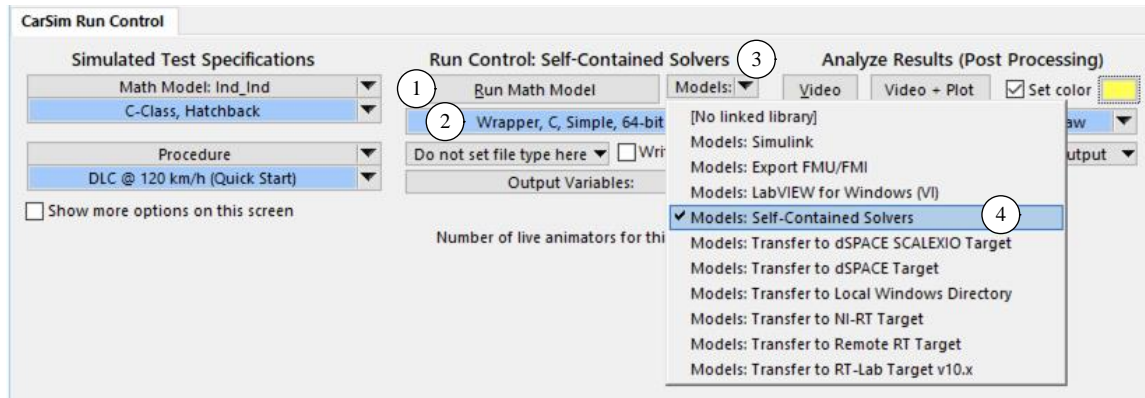

Figure 15. Link to the library Models: Self-Contained Solvers.
As described in the tech memo *Automating Runs with the VS API*, the **Run Control** dataset for a simulation made with a wrapper EXE should include a link (2) (Figure 15) to a dataset in the library **Models: Self-Contained Solvers** (4) selected with the **Models** drop-down control (3). With this setup, you can run a simulation by clicking the **Run Math Model** button (1), just as with the built-in VS Math Models.